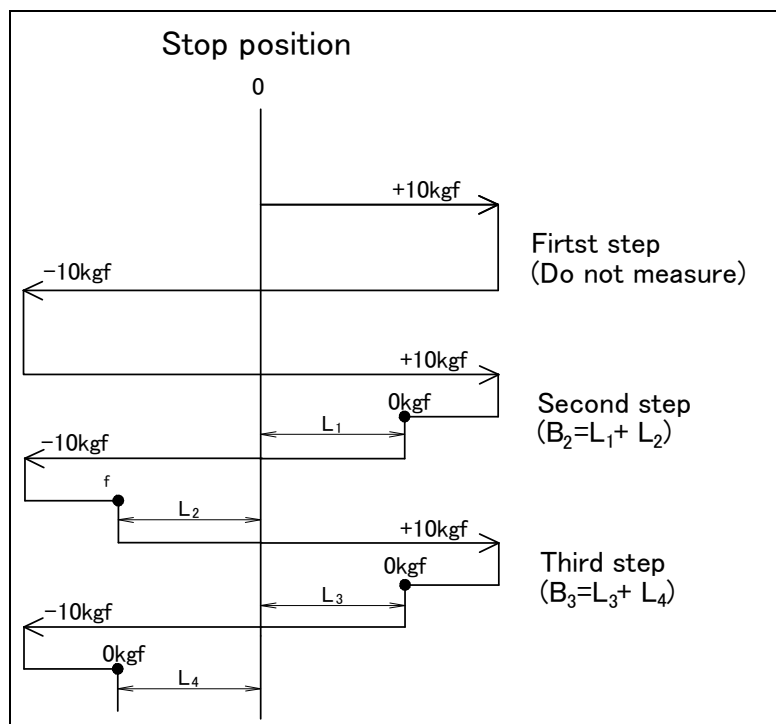

Fig. 4.2 (a) Backlash Measurement Method
- 1 Maintain the positioner in a specified posture. (See Fig. 4.2 (a))
- 2 Apply positive and negative loads to each axis as shown in Fig. 4.2 (a).
0°	See fig 4.2 (b)